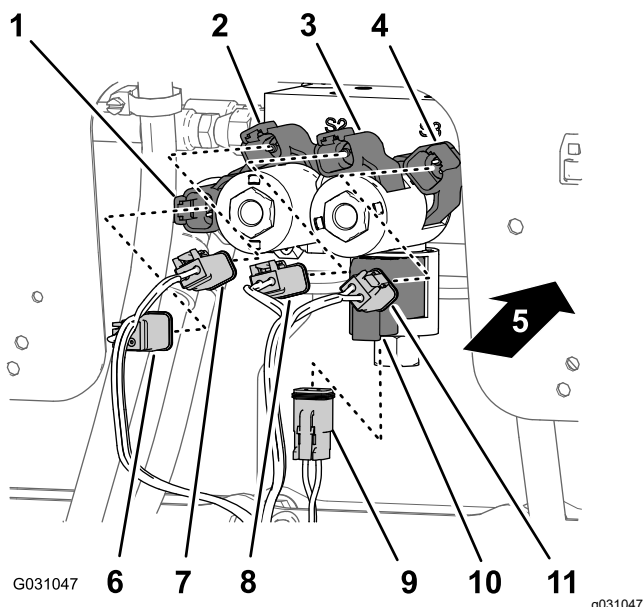

Figure 105
1. At the bottom of the lift-cylinder manifold, connect the 2-socket connector of the rear wire harness labeled **Enable Solenoid** into the 2-pin connector for the enable solenoid (Figure 104 and Figure 105).
- At the lower right solenoid, connect the 2-socket connector of the rear wire harness labeled **Right Down** into the 2-pin connector for the right down solenoid (Figure 104 and Figure 105).
- At the upper right solenoid, connect the 2-socket connector of the rear wire harness labeled **Right Up** into the 2-pin connector for the right up solenoid (Figure 104 and Figure 105).
- At the lower left solenoid, connect the 2-socket connector of the rear wire harness labeled **Left Down** into the 2-pin connector for the left down solenoid (Figure 104 and Figure 105).